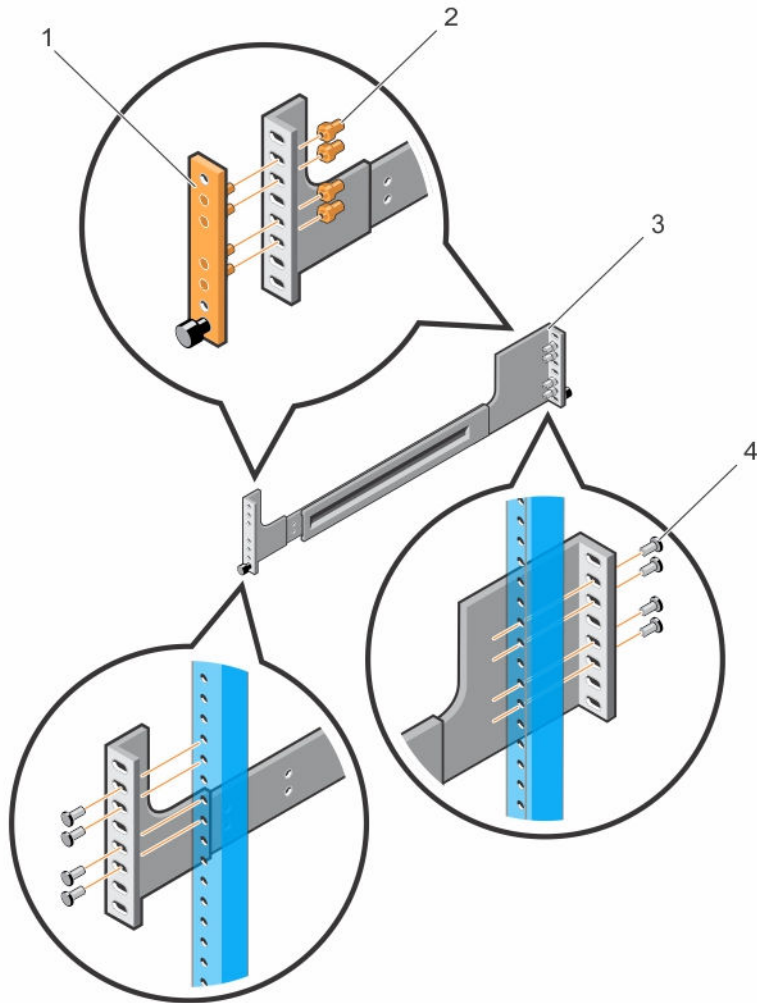

Figure 15. Installing Tooled Rails in a Threaded-Hole Rack
- Using a flat-tipped screwdriver, remove the bracket subassembly and four pins (items 1 and 2 in Figure 15) from the front and rear of each rail. Pull on each subassembly to fully remove it.
- Attach the front of each rail to the front rack posts using the screws provided with the rack. On a 4-post rack, slide the back end of each rail (item 3 in Figure 15) so that it aligns with the back post holes at the same height. Attach each rail to a rear post using four screws provided with the rack (item 4 in Figure 15).